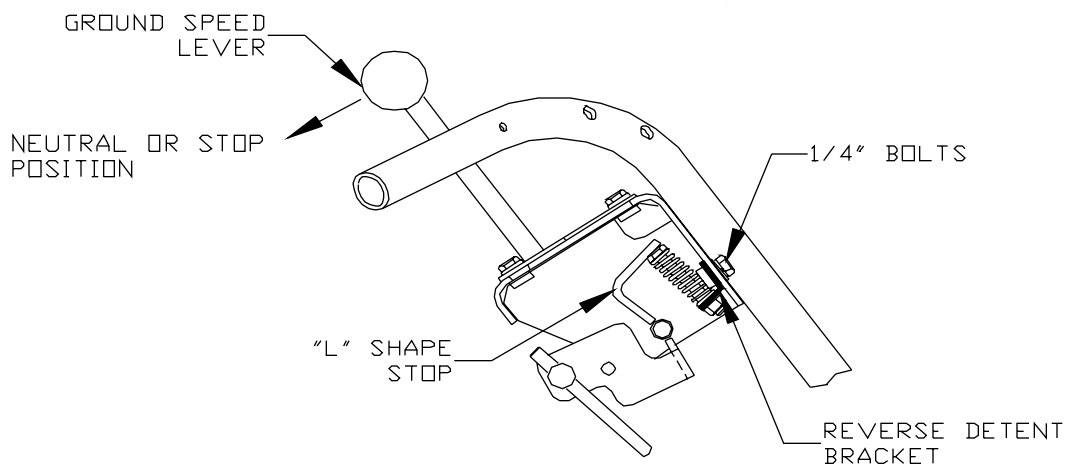

Figure 4
4. Loosen the two 1/4" bolts holding the reverse detent bracket. Slide the bracket up or down till it just touches the "L" shape stop under the console. Holding the bracket against the stop retighten the two 1/4" bolts. (Repeat on other side if needed.) (see fig. 4)